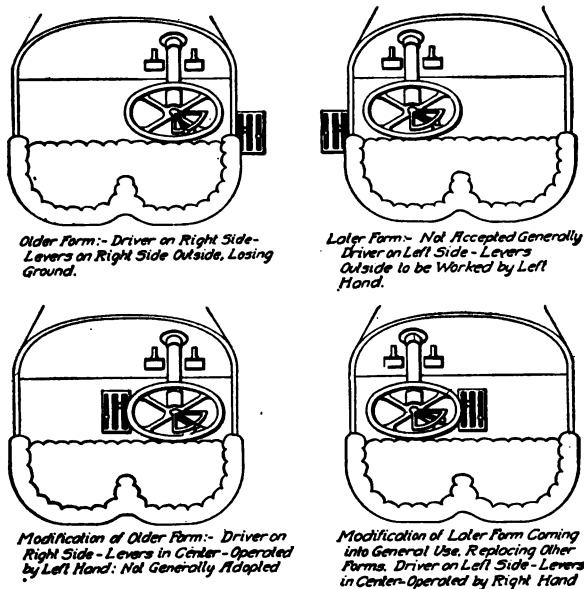

Fig. 33. Various Control Arrangements
*Advantages.* The advantages of left-sided location are being admitted, but as to the lever location there has been more argument. When the first changes from the right side to the left were made, many changed the levers over also, placing them on the outside as before, which brought them to a position where the left hand had to be used, which did not become popular. In Fig. 33 are shown the four locations. The first and second indicate the original position and the shift just mentioned. The third, which was tried by a number of makers, was to leave the driver on the right but shift the